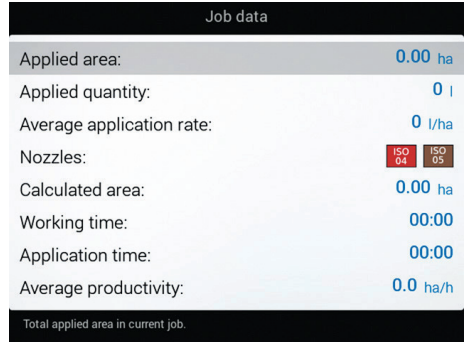
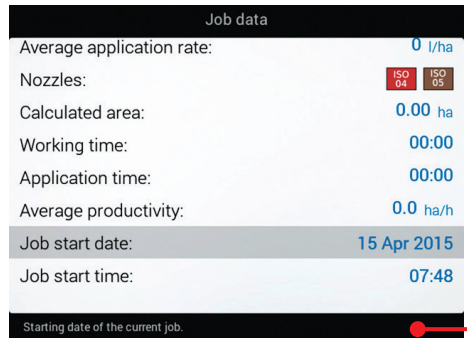

Fig. 325
Fig. 326
- 2 Press **F2** to view job data (Fig. 325 and Fig. 326).